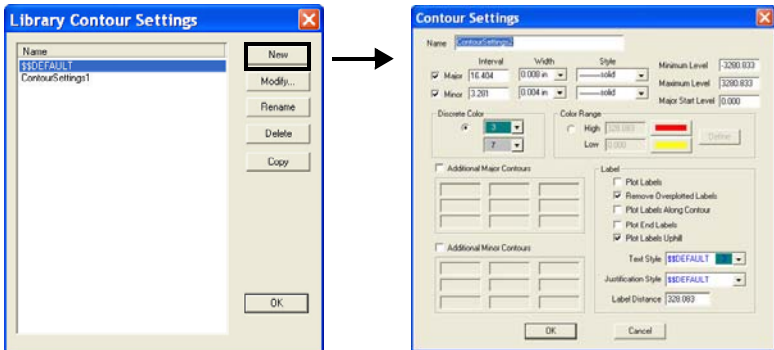

Figure 16-32. Library Contour Settings
Click **Library ▶ Contour Settings**. The *Library Contour Settings* dialog box appears (Figure 16-32).
- **New** – press to create a plot setting for the library. The *Contour Settings* dialog box appears (Figure 16-32).
Figure 16-32 and Table 16-10 below describes contour settings parameters.